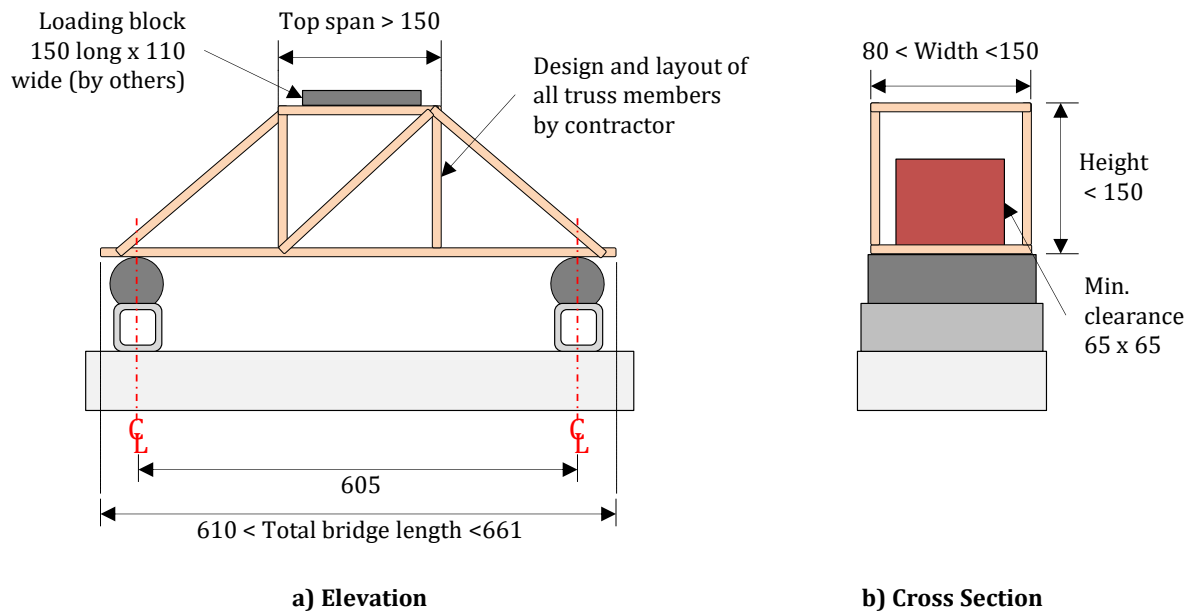

Figure 1: Geometric specifications and loading configuration (NTS)
- Bridges shall have a length, height, width, loading platform, and minimum clearance for traffic that comply with the dimensions shown in Figure 1 on the following page. The placement of the bearing blocks is fixed as shown.